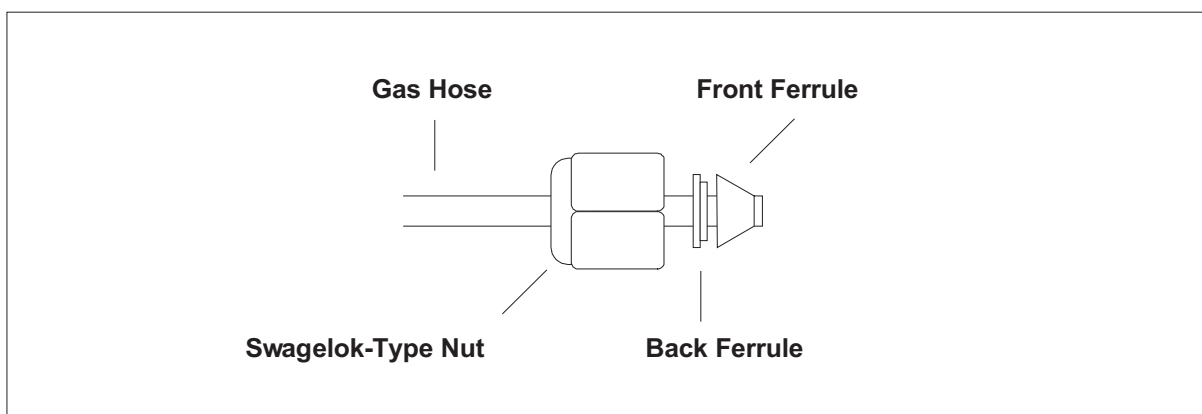

Figure 1-1. Proper orientation of the Swagelok-type nut and two-piece ferrule
1. Connect an appropriate length of 1/4-in. ID Teflon® tubing with a brass Swagelok®-type 1/4-in. nut (P/N 00101-12500) and a 2-piece brass 1/4-in. ferrule [P/N 00101-10000 (front), P/N 00101-04000 (back)] to the nitrogen source. See Figure 1-1 for the proper orientation of the fitting and ferrule.
1. Connect an appropriate length of 1/8-in. ID copper or stainless steel tubing with a brass Swagelok-type 1/8-in. nut (P/N 00101-15500) and a 2-piece brass 1/8-in. ID ferrule [P/N 00101-08500 (front), P/N 00101-2500 (back)] to the HELIUM IN gas inlet located on the LTQ I/O panel. (See Figure 1-1 for the proper orientation of the fitting and ferrule.)